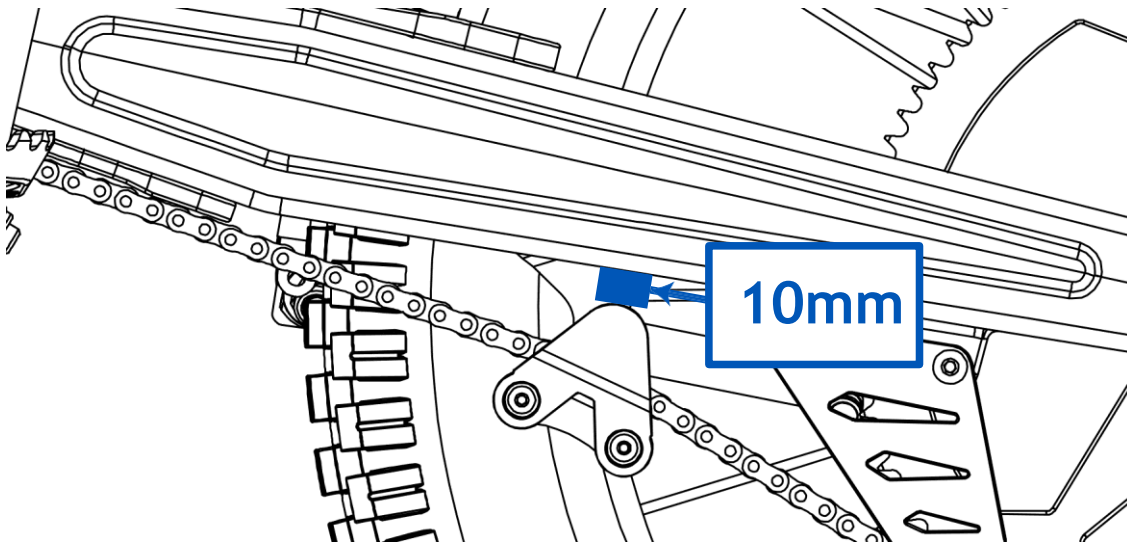

Fig. 16
- Check the chain slack, so that the chain has a slack as indicated in this manual, 10 mm (Figure 16). To check this, turn the wheel and check the slack several times, always measuring from the same point.